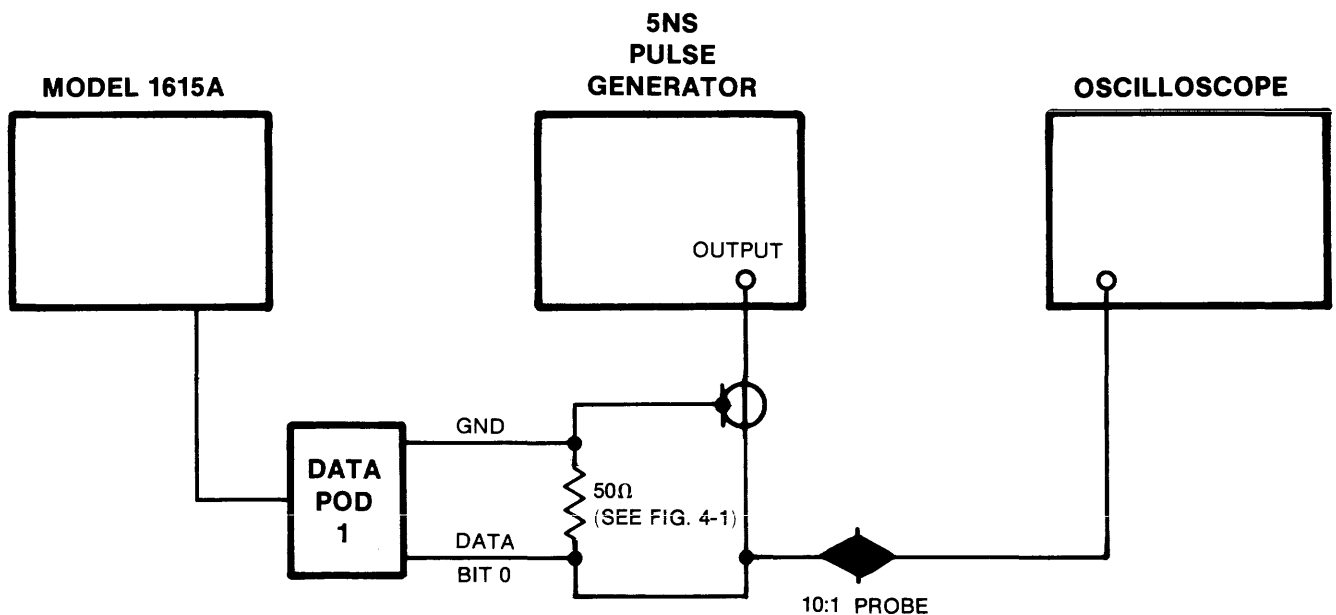

Figure 4-7. Asynchronous Specification Test Setup
- a. Connect 1615A to test equipment according to figure 4-7. Use pulse generator with 5-ns pulse output capability.